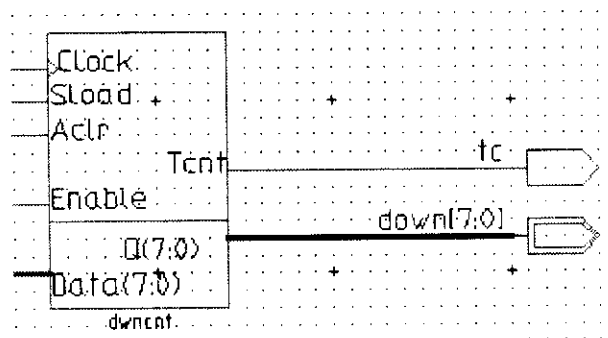

Figure 14. Additional OUTBUF8 block for DMAC.2
2. Use the Bus icon  to add a bus and hierarchical output connector to the Q[7:0] output of the DWNCNT block as shown in Figure 14.